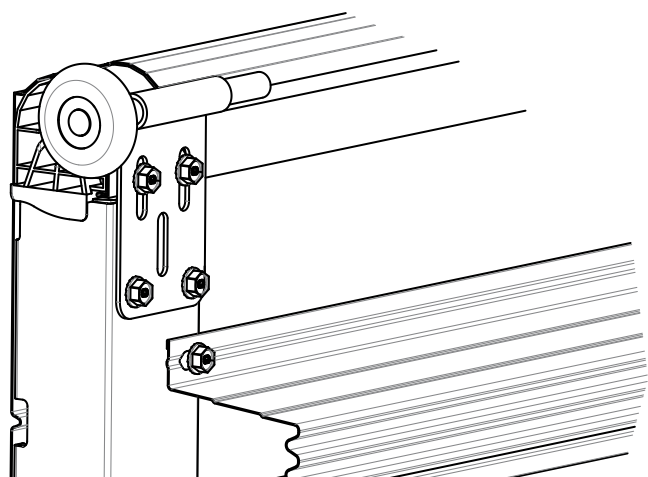

Fig: 2.2.7
**WARNING!** Ensure all tek screws indicated are fitted after adjusting. Fig 2.2.7.